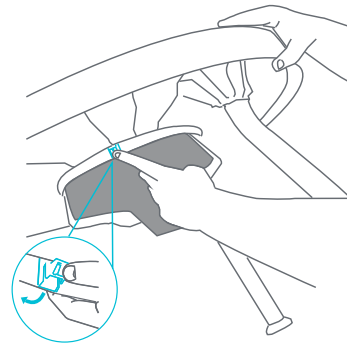

Fig. 2a
- To remove the seat, lift tabletop to expose one of three tabs underneath. Detach one of the tabs by pushing it off the tabletop (Fig. 2a).